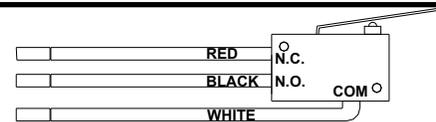
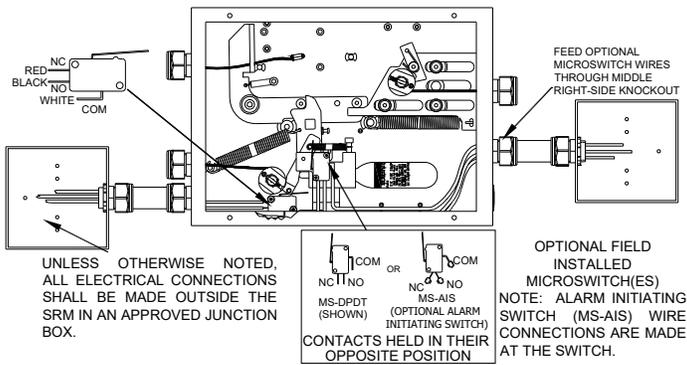

Figure 2-12.
Figure 2-13.
The Systems Releasing Module(s) comes with two (2) factory installed micro-switches (the same switches as the **Model MS-DPDT**) that are in their normal position when the SRM2 is in the **SET** position. The leads for these switches are approximately two feet long and need to be passed through the bottom left knock-out. See **Figure 2-12** and **2-13**.
The **Model MS-DPDT** is a field installed set of miniature electrical switches that provides two additional electrical dry connections if they are required. These switches are designed to shut off or turn on when the system is actuated. The **Model MS-DPDT** has two sets of contacts rated at 20.5 125/250 VAC, 1 ½ HP at 250 VAC, ½ HP at 125 VAC each. See **Figure 2-12** and **Figure 2-13**.